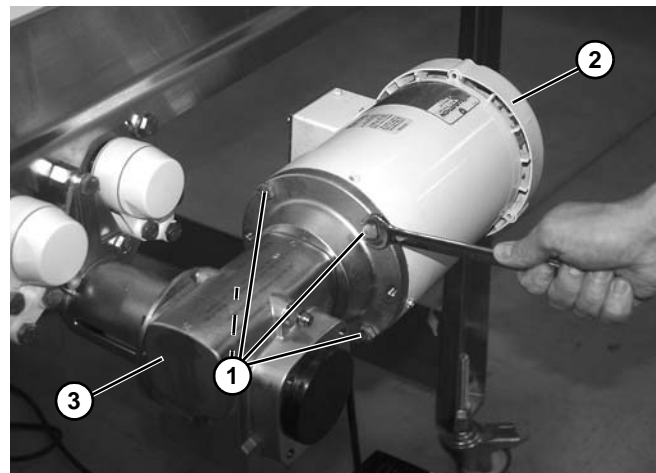

Figure 83
4. Remove four screws (Figure 83, item 1) holding motor (Figure 83, item 2) onto the gear reducer (Figure 83, item 3).